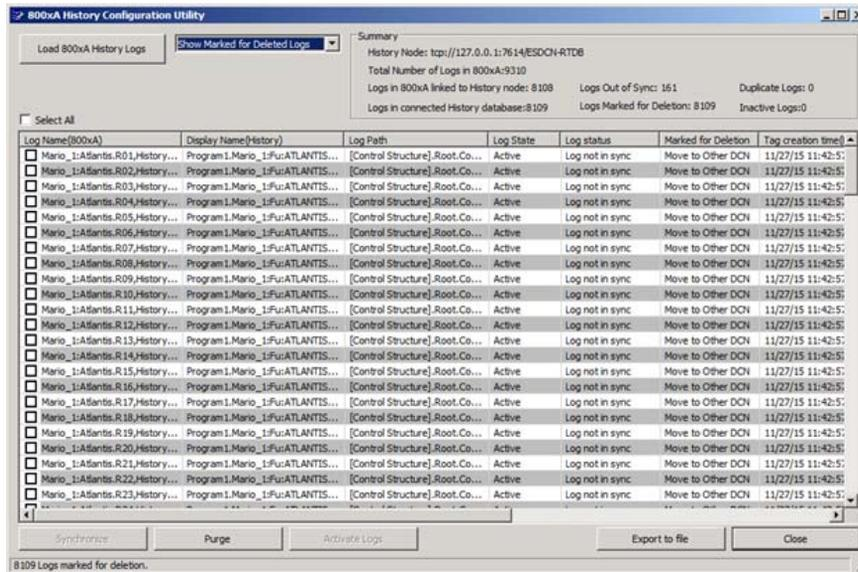

Figure 228. Show Logs Marked for Deletion
3. Select the **Show Marked for Deleted Logs** button as shown in the Figure 228, will list all the logs marked for deletion. (History Logs which are already deleted in the System 800xA).